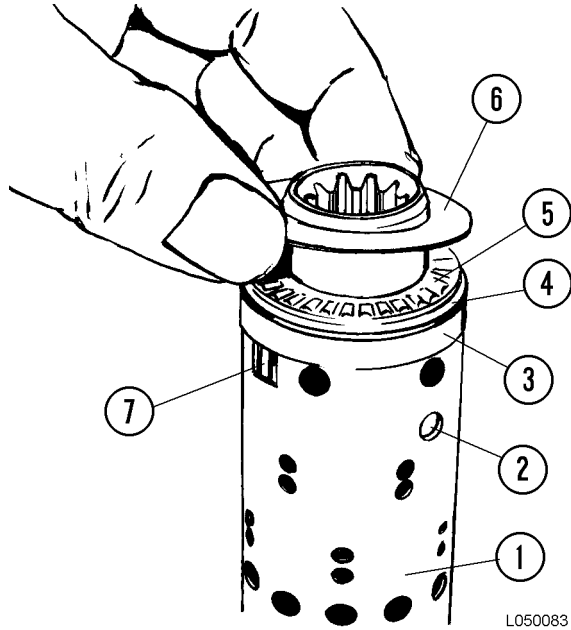

FIGURE 5-10. BEARING INSTALLATION
6. With neutral position springs (7, Figure 5-10) centered in spool and sleeve, install ring (3), rear bearing race (4), thrust bearing (5) and front bearing race (6) in that order. The chamfer on the rear bearing race must be facing away from the bearing.